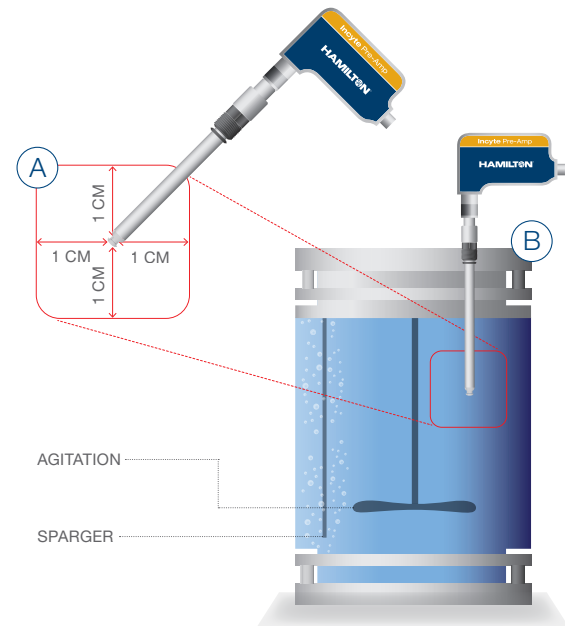

Figure 4: Mounting restrictions, A: Space requirements / B: Reactor mounting restrictions.
1. Select the most appropriate port for mounting the sensor (Figure 4). Choose a position where gas bubbles may not interfere with the measurement, for example in ports opposite to the sparger or at a significant distance. Gas bubbles interfere with the measurement and may cause reading errors. The electrodes of the Incyte sensor have to be kept at least 1 cm away from any solid parts, especially metallic ones. The electric field may be subject to interference and the measurement may be affected.